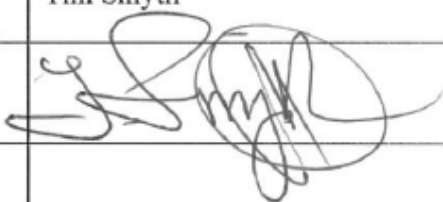

**Figure 1-1: A109 IBF SYSTEM KIT (P/N: 124000-101)
- a. The Agusta A109E, A109S, and AW109SP Inlet Barrier Filter (IBF) system is offered to operators in one kit (AFS Kit No. 124000-101) providing a primary filter assembly and bypass system with integrated auxiliary filter to protect each engine inlet (See Figure 1-1).
- c. The IBF is a complete system in which safety, functionality and serviceability were major considerations in the design process. The major kit components include: LH/RH filter assembly, bypass assembly, IBF1/IBF2 cockpit indicator/switch, cowl seal and access (door) assembly. The bypass assembly has the following components for each engine inlet all mounted on a common base plate secured to the central beam and housed in the aft end of the rear upper cowling: bypass door assembly with integrated auxiliary filter, actuator, differential pressure switch, and filter maintenance aid. These components are accessible on the ground via the access door at the aft end of the rear upper cowling. A cowl seal is included in the kit to seal off the interface between the central beam and the upper end of the engine cowl assembly. Located at the end of this chapter in Figure 1-1 is an exploded view of the primary kit components with the exception of the cockpit components. For a detailed illustration of all kit components, see the Parts Figures at Appendix A.